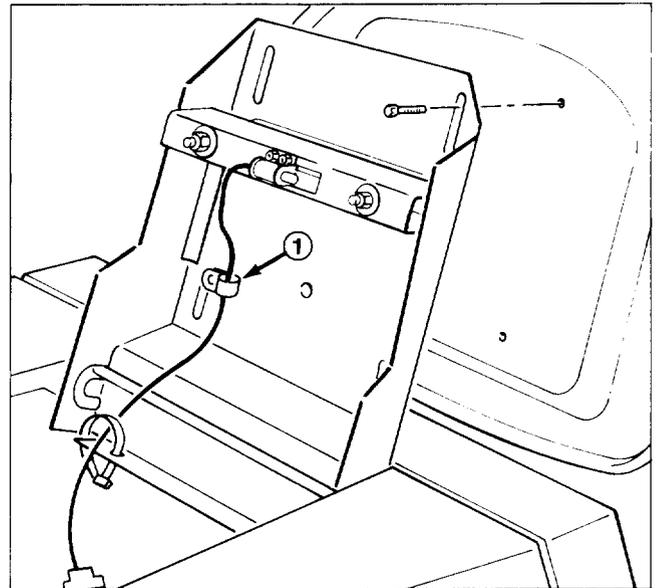

Figure 3
1. Position seat onto seat base, aligning mounting holes (Fig. 3).
2. Using left front mounting slot in seat base, loosely secure wire clamp and seat to seat base with a Flangehead capscrew (Fig. 3).
3. Mount seat to seat base with (3) remaining Flangehead capscrews.